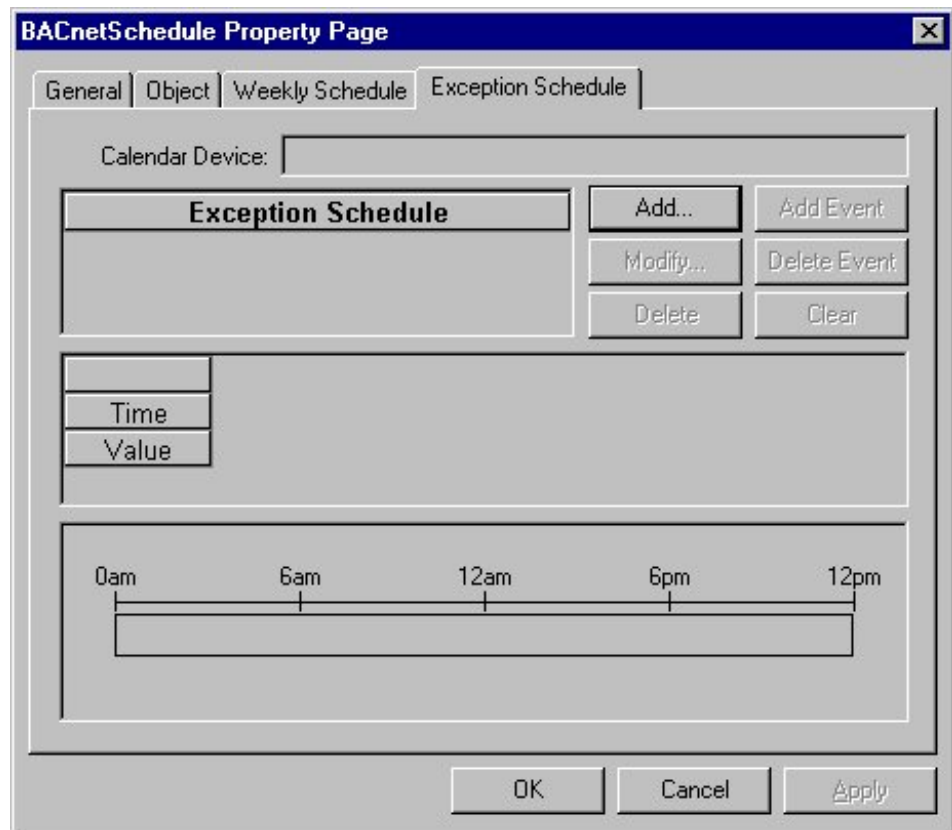

Figure 8-7: Blank Exception Schedule Screen
1. Select the Exception Schedule tab on the BACnetSchedule Property Page (Figure 8-2). A blank Exception Schedule appears (Figure 8-7).